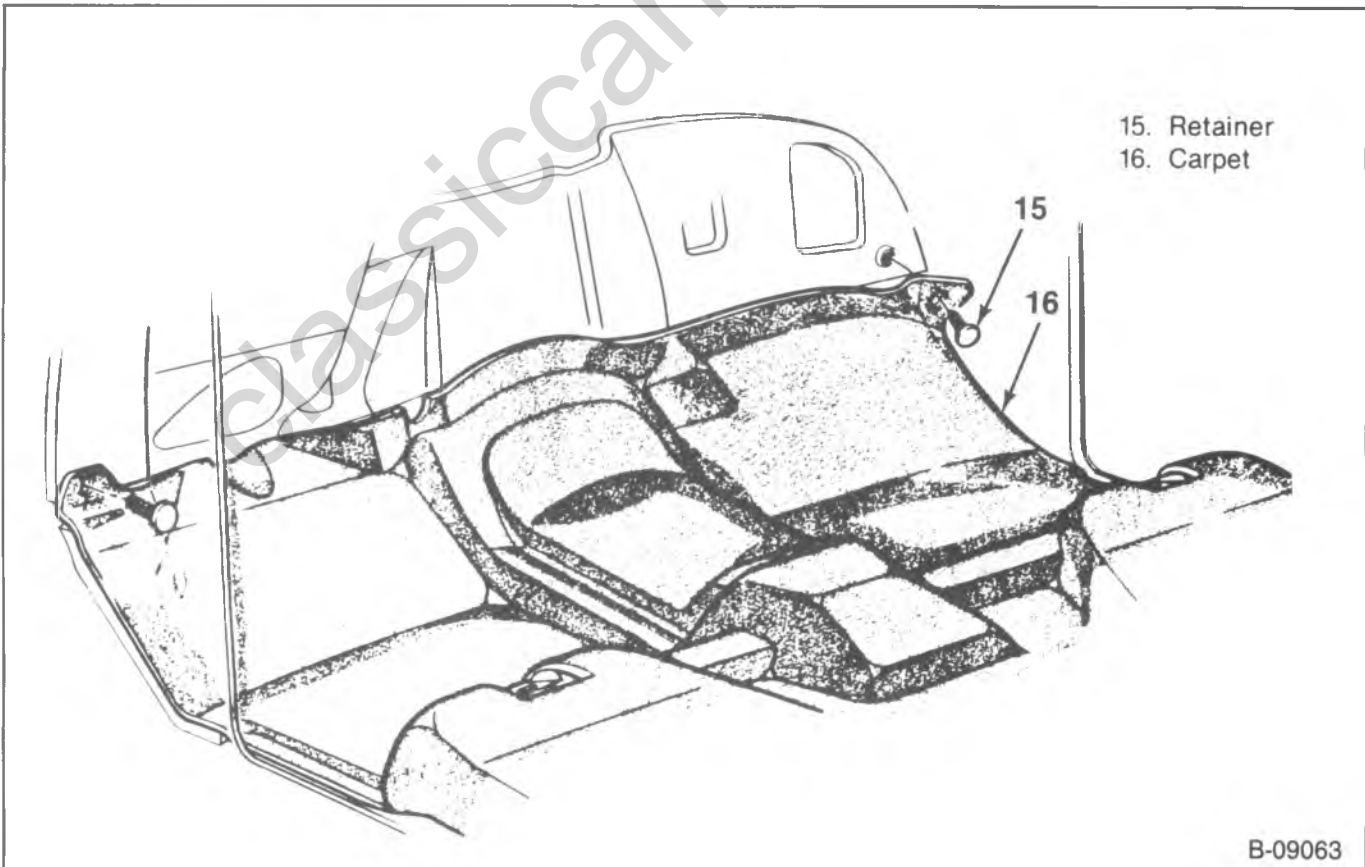

Figure 7—Carpet Retainers
6. Dash panel retainers (figure 7).
7. Lock pillar garnish molding screws (41) and the molding (42).
8. Carpet to floor panel bolts (28) (if equipped).
9. Carpet (29) from the vehicle.
1. Carpet (29) to the vehicle.
2. Carpet to floor panel bolts (28) (if equipped).
3. Lock pillar garnish molding (42) and the screws (41).
4. Dash panel retainers (figure 7).
4. Side trim carpet panel screws (45) and the panel (46).
5. Side trim panel screws (47) and the panel (48).
6. Floor panel trim plate screws (49) and the trim plate (50).
7. Rear scuff plate screws (51) and the plate (52).
8. Dash panel retainers (figure 7).
9. Carpet (53) from the vehicle.
1. Carpet (53) to the vehicle.
2. Dash panel retainers (figure 7).
3. Rear scuff plate (52) and screws (51).
4. Floor panel trim plate (50) and screws (49).
5. Side trim panel (48) and screws (47).
6. Side trim carpet panel (46) and screws (45).